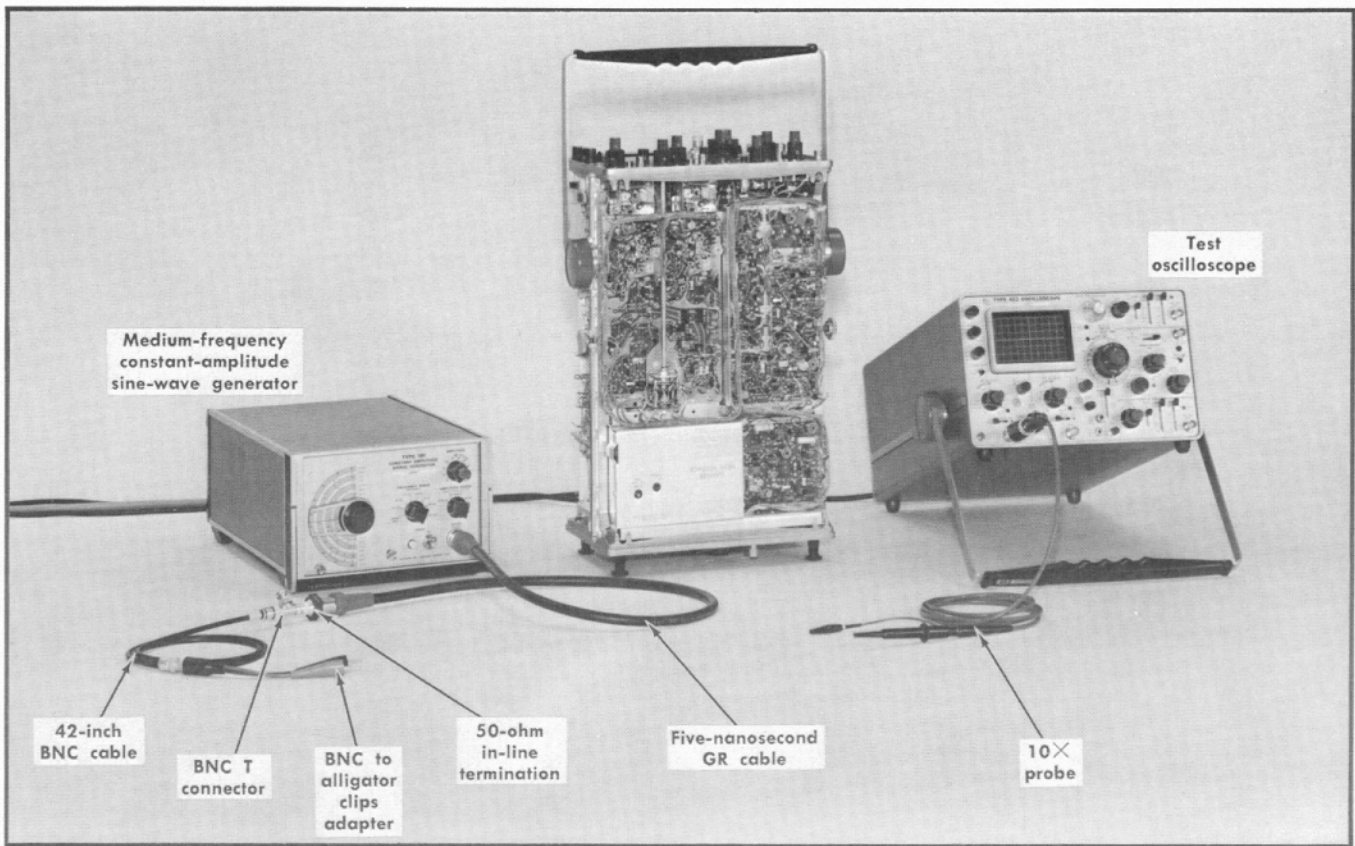

Fig. 6-67. Initial test equipment setup for steps 81 through 85.
81. Adjust Z Axis Compensation ①
- a. Test equipment setup is shown in Fig. 6-67.